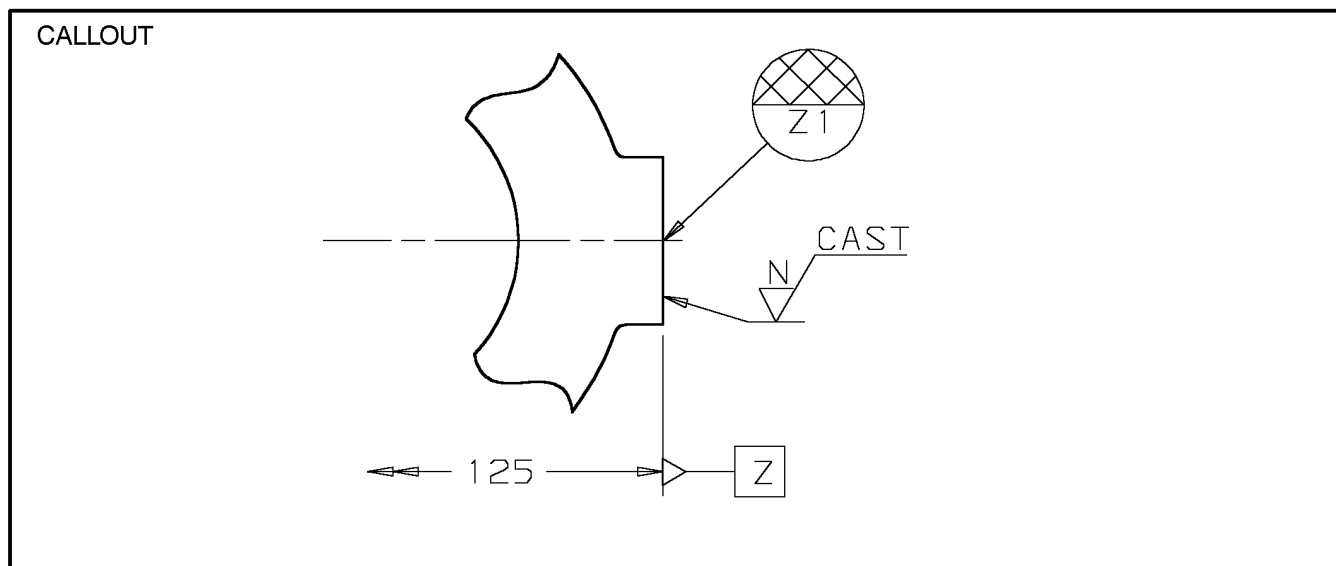

Figure 37 - Supplier Responsibility - Casting with Machining Required
**14.2** The callout in Figure 37 indicates that the casting supplier must machine the flat surface within the N surface texture requirement. The datum target on the machine surface is used to establish Datum Plane Z.